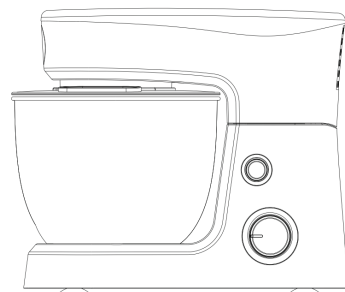

Fig.2
- And make sure the bowl cover is in place (see fig.2).